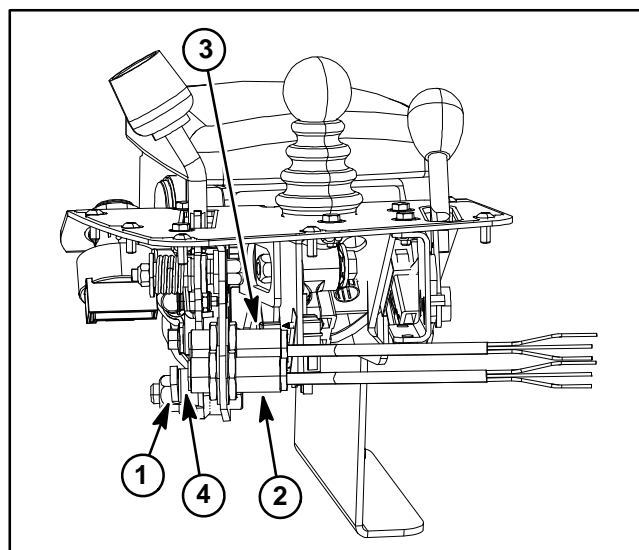

Figure 20
2. When the functional control lever is placed in the neutral or mow position, the gap between the appropriate switch head and the tab on the functional lever should be from 0.090" to 0.120" (2.3 to 3.0 mm) (Fig. 20).